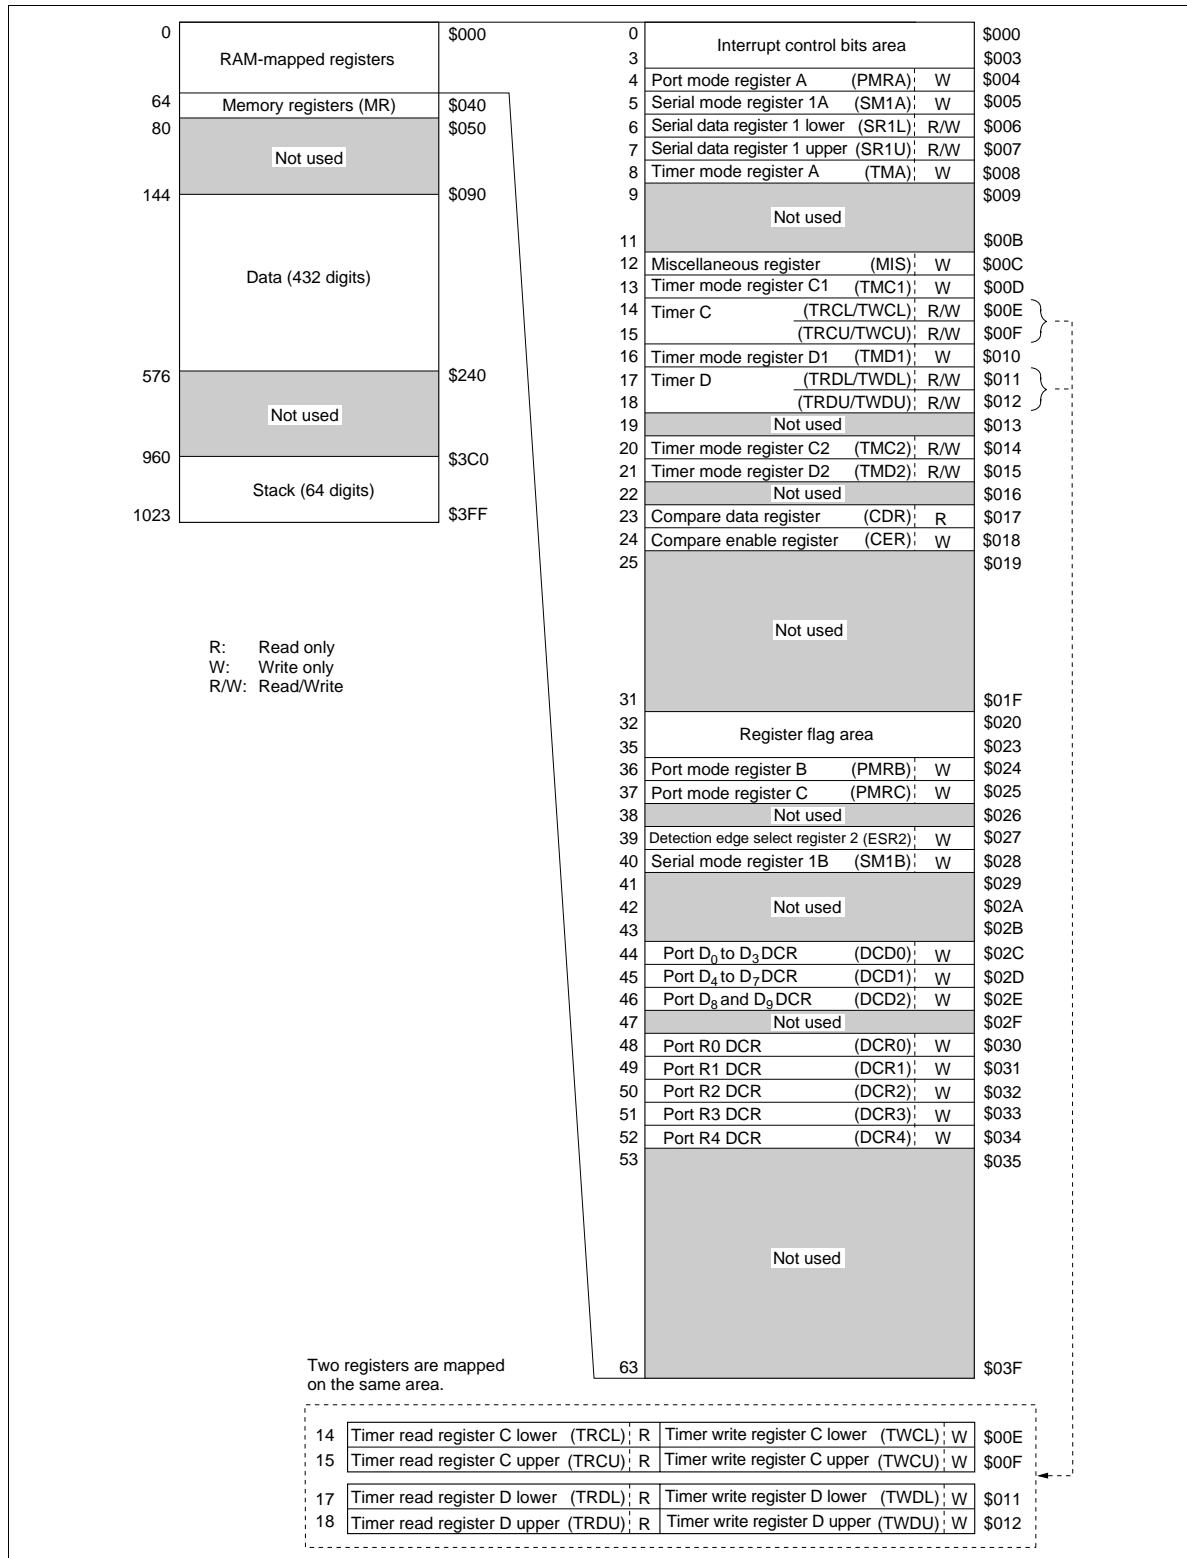

Figure 2 RAM Memory Map
The MCU contains a 512-digit × 4-bit RAM area consisting of a memory register area, a data area, and a stack area. In addition, an interrupt control bits area, special register area, and register flag area are mapped onto the same RAM memory space as a RAM-mapped register area outside the above areas. The RAM memory map is shown in figure 2 and described as follows.
This area is used as mode registers and data registers for external interrupts, serial interface 1, timer/counters, voltage comparator, and as data control registers for I/O ports. The structure is shown in figures 2 and 5. These registers can be classified into three types: write-only (W), read-only (R), and read/write (R/W). RAM bit manipulation instructions cannot be used for these registers.